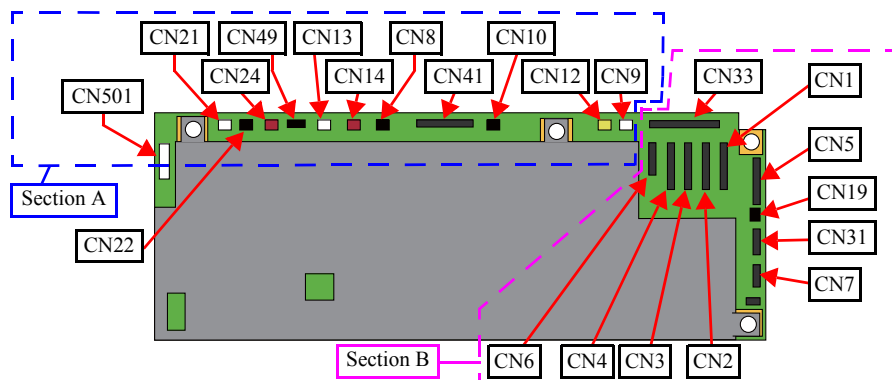

Figure 4-229. Connector positions on the Main Board
4. Disconnect the cables and FFCs connected to the section B of the Main Board. (See Fig. 4-229.)
5. Remove the screw (x1) that secures the Right Cable Frame and the Main Board. (See Fig. 4-229.)